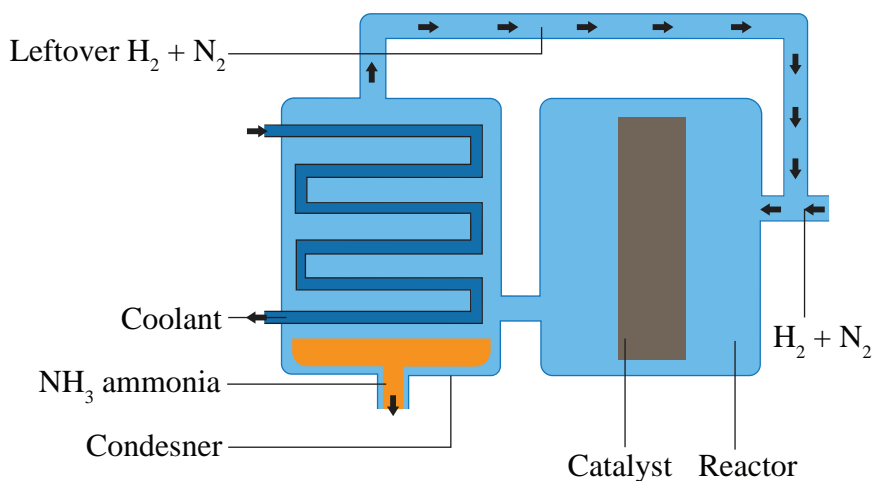

Figure 3.2: production of NH_3 using Haber-Bosch process
Step 3: The hot mixture of gases is then passed through a condenser. Since ammonia condenses easily as compared to nitrogen and hydrogen, the liquefied ammonia is collected and removed, and the leftover nitrogen and hydrogen gases are re-introduced into the reactor. Thus, pressure is maintained, and there is no loss or wastage of reactants. This recycling of the raw materials allows a 97% conversion of initial reactants into ammonia, which is, then, used to produce a variety of products. The steps are shown in **Figure 3.2**.